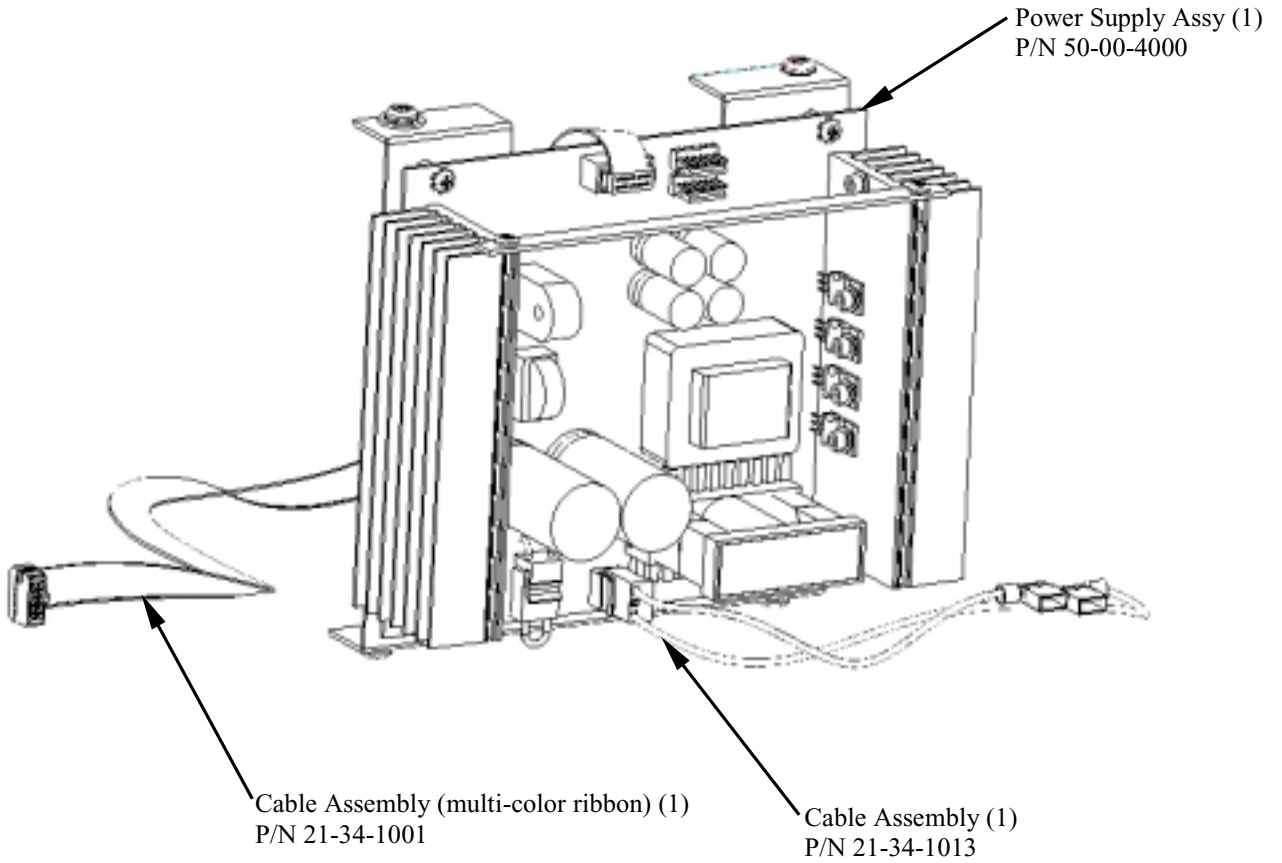

Figure 7
- a. With Power Supply oriented as shown in figure 7 (bracket notch on top), install a ribbon cable assembly and a 2-wire cable assembly.